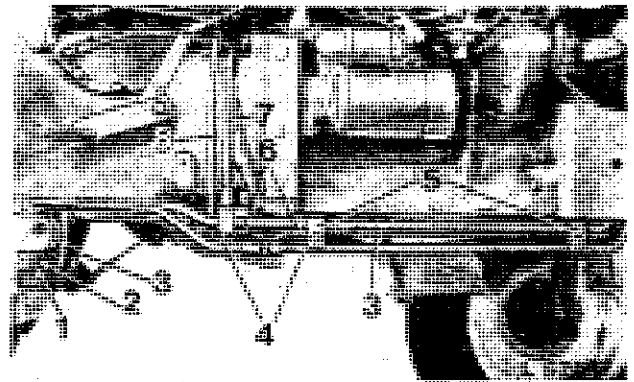
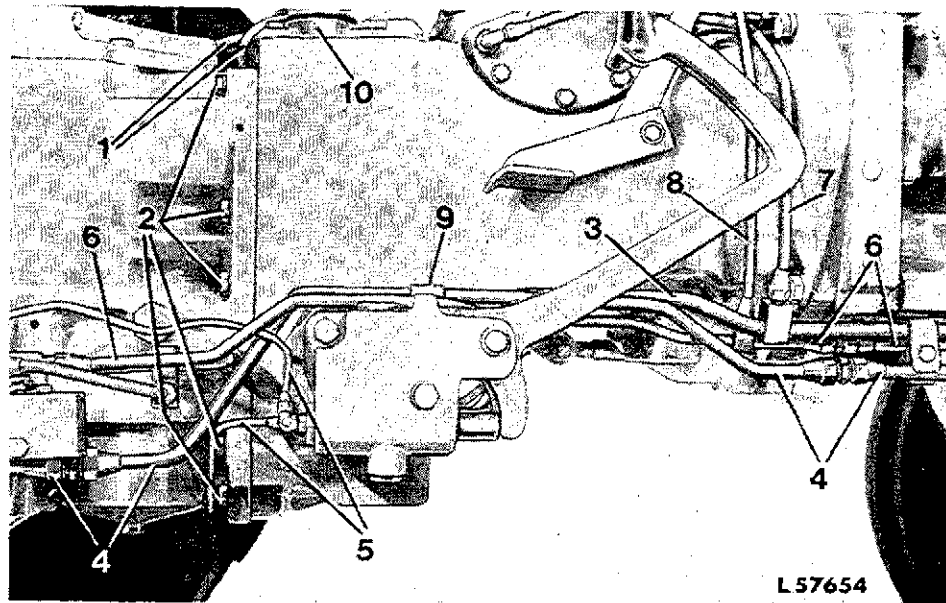

Fig. 2 — Disconnecting Hydraulic Oil Lines
Fig. 5 — Separating between Clutch Housing and Transmission Case, R.H. Side
Remove pipe clamps 5 (fig. 2). Remove cap screw 2 and retainer 1 for attaching suction line 3 to front of clutch housing. Disconnect pressure line 4 at union.
Engage pump drive in rear coupling and at the same time slide hydraulic pump suction line 3 (fig. 2) into clutch housing bore, making sure seal washer has been installed.
Install retainer 1 (fig. 2) of suction line 3 and tighten cap screw 2 of retainer to the specified torque.
Remove JDG-9 support stand, and connect pressure line 4 (fig. 2) at union.
Remove cap screw 2 (fig. 2) and retainer 1 for fastening suction line 3 (figs. 2 and 5) to front clutch housing. Disconnect pressure line 4 at front and rear union (see fig. 5).
Remove pipe clamp 9 (fig. 5) and pressure line 4.
Disconnect brake lines 5 (fig. 5) at brake valve. Remove transmission shield.
Remove transmission gear shift cover 10 (fig. 5), and remove gear shifter lever guide spring.
Remove cap screws 2 (fig. 5) on both sides and both inner cap screws. Separate clutch housing from transmission case.
Connect pressure line 4 (figs. 2 and 5) at front and rear union. Install pipe clamp 9 (fig. 5).
*On tractors with power steering only:* Connect pressure line 6 (fig. 5) of power steering system pump at power steering pressure relief valve and at union. Install power steering pressure line 8 and return line 7.